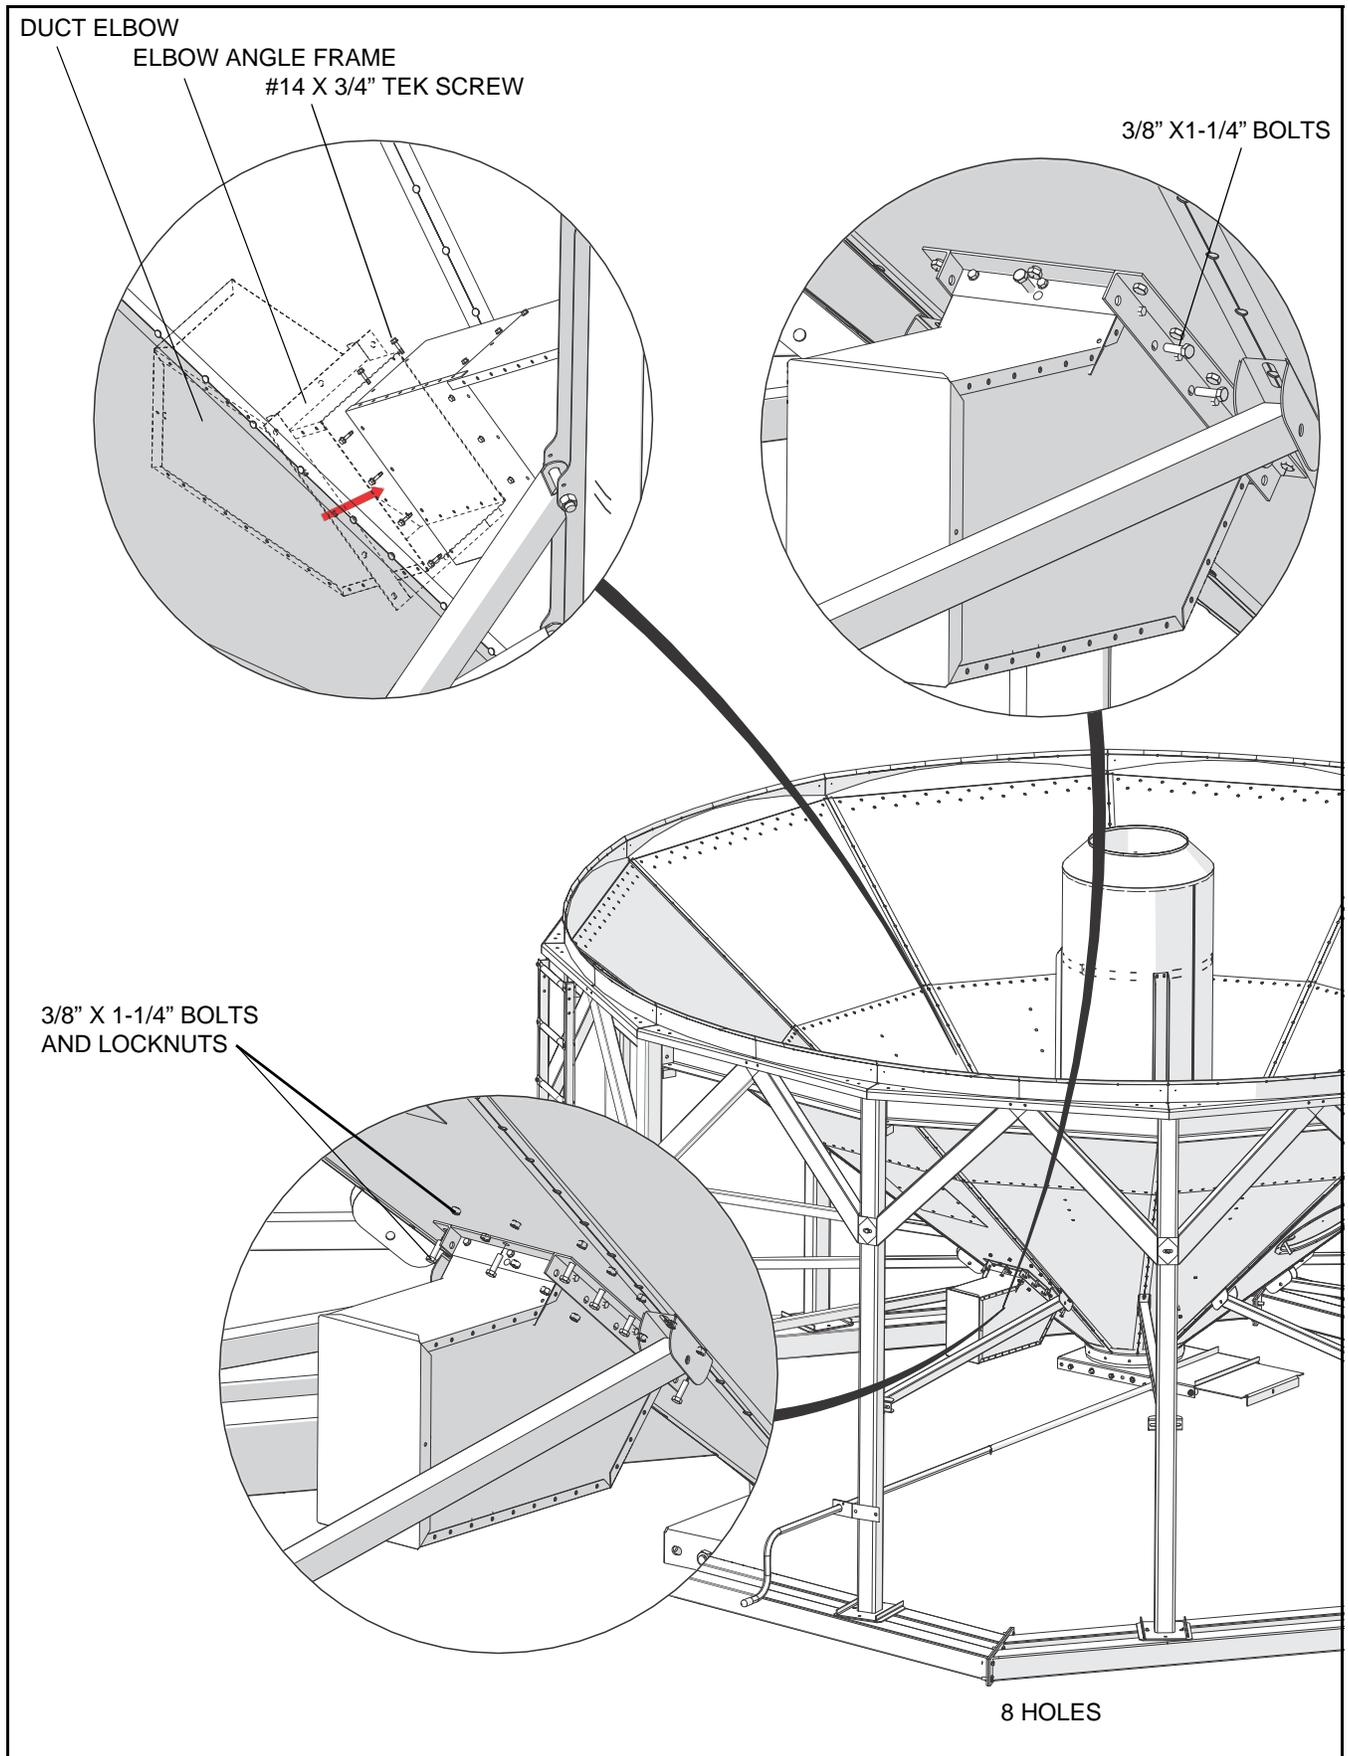

Figure 3.4
9. Install duct elbow as follows (see Figure 3.4):
- f. Fasten elbow angle frame to hopper cone (at 12 places) and to elbow (at 8 places) with 3/8" x 1-1/4" bolts and nuts, as shown in Figure 3.4.
10. Ensure that 17" straight duct is aligned over duct elbow. Fasten 17" straight duct to duct elbow using twelve #14 x 3/4" tek screws as shown in Figure 3.4. Use 4 screws on each side and 2 screws on both the top and the bottom of the duct.